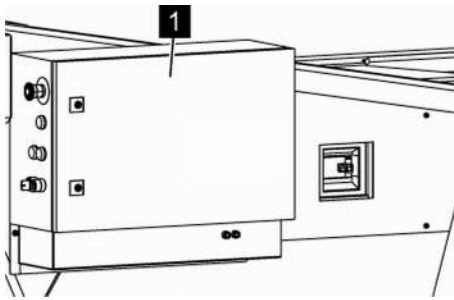

Fig. 176: Close the control box door
4. → Close control box door (Fig. 176/1) and lock with the double bit key.